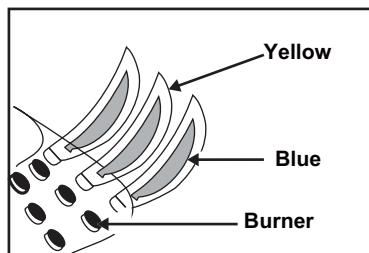

Fig.8
Prepare the toasting tray by assembling the handle and the grid (Fig. 8). Position the bread slice on the grid and place the tray underneath the burner (9). Wait until it is enough toasted then remove the tray to flip the bread slice. Install back the tray to grill the other slice side.